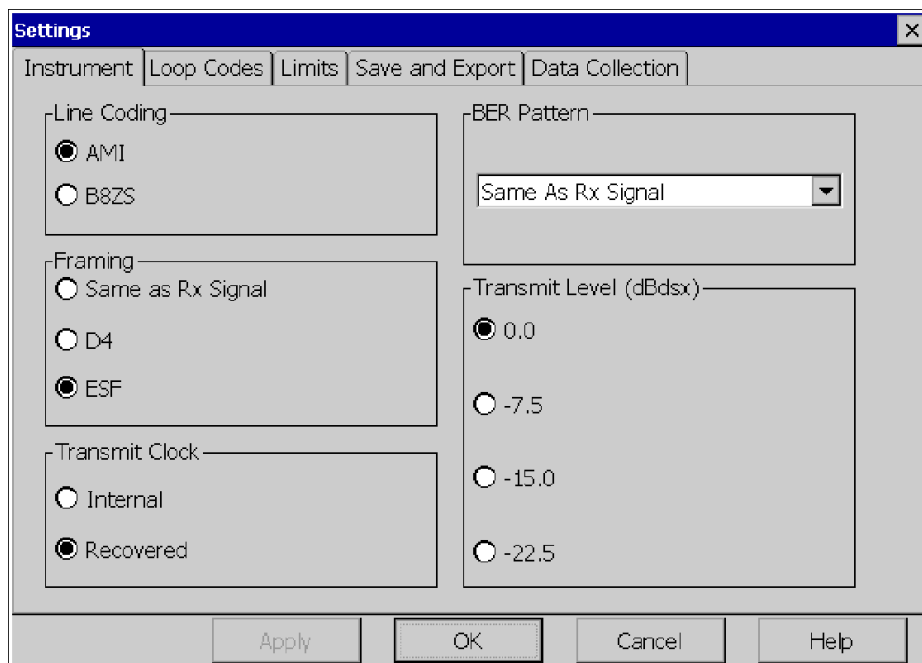

Figure 3-7: Instrument settings dialog box
1. Select **Setup > Edit** to open the dialog box; then open the Instrument tab. See Figure 3-7.